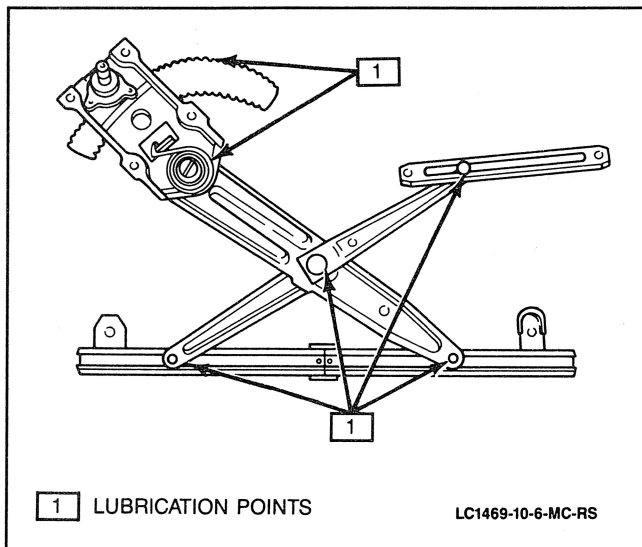

Figure 24 Window Regulator Lubrication Points
- Apply a multipurpose grease to all lubrication points (Figure 24).